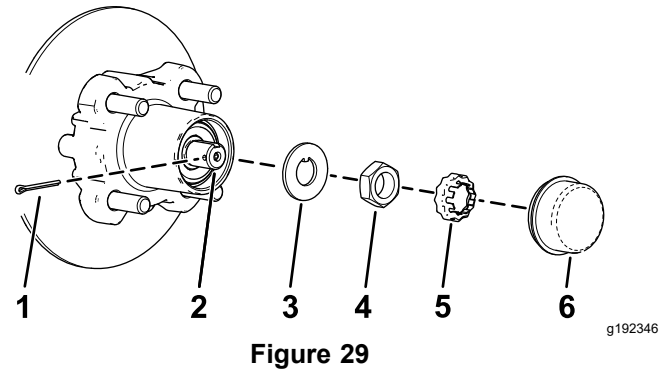
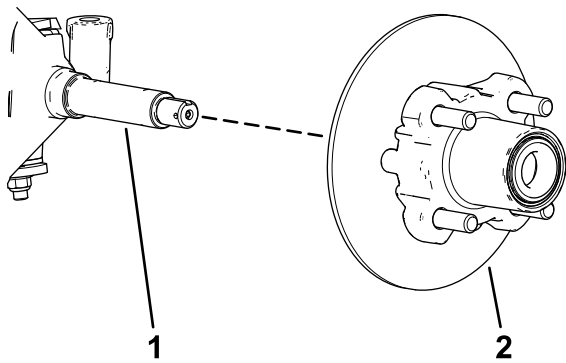

Figure 29
Figure 30
4. Remove the dust cap from the hub (Figure 29).
5. Remove the cotter pin and nut retainer from the spindle and spindle nut (Figure 29).
6. Remove the spindle nut from the spindle, and separate the hub and rotor assembly from the spindle (Figure 29 and Figure 30).